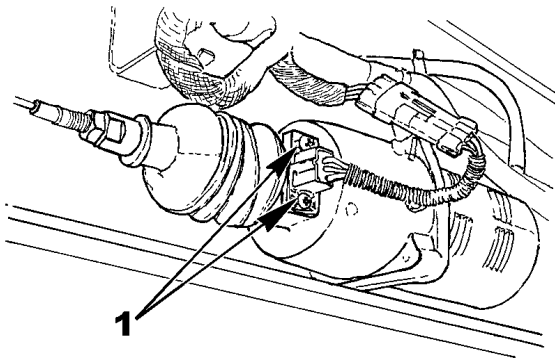
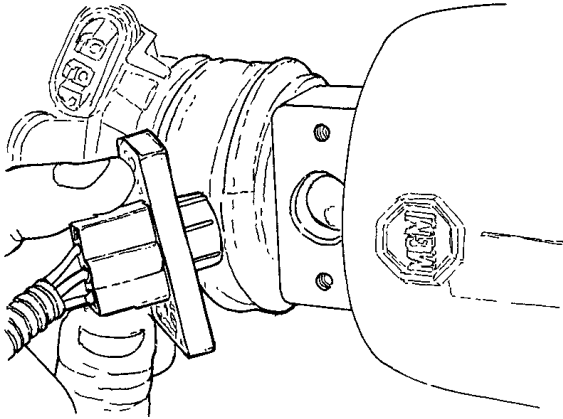
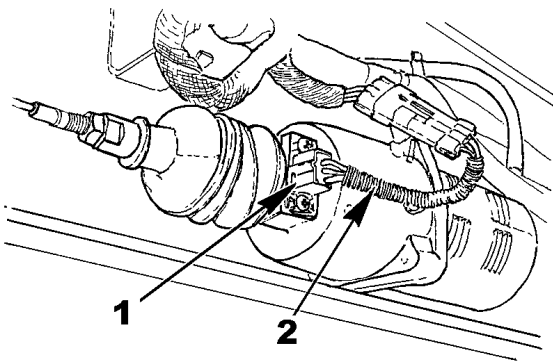

Figure 6 Rod Stroke Sensor Retaining Screws
Figure 7 Rod Stroke Sensor
Figure 8 Rod Stroke Sensor and Harness
2. Remove the two retaining screws (Figure 6).
3. Remove rod stroke sensor (Figure 7).
1. Connect harness (Figure 8).
2. Install sensor (Figure 7 and Figure 8).
3. Install retaining screws (Figure 6 and Figure 8).
3. Disconnect rod stroke sensor wire harnesses (Figure 8).